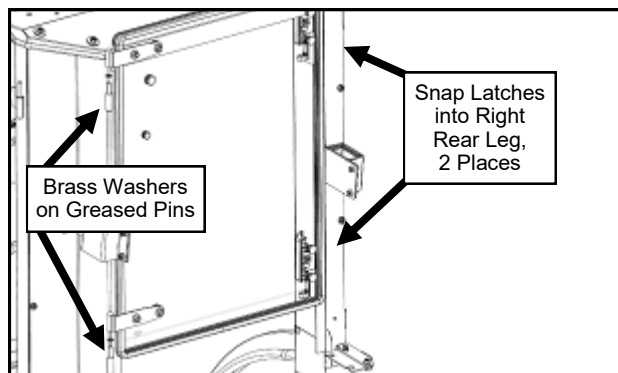

Fig. 17.1 (Hang Rear Window)
17.1 Grease the hinge pins found on the left side rear leg and slide on greased brass washers (one washer per pin). See Figure 17.1.